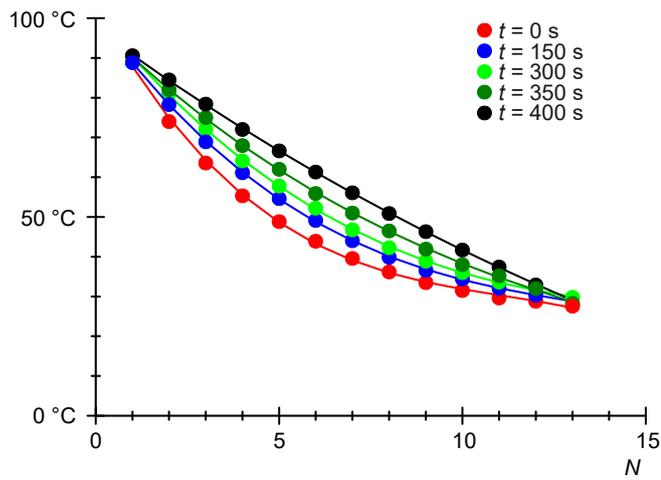

Fig. 2: Temperatures along the aluminium rod in five sets of measurements made at time intervals of 150 s
- Plot the sets of measurements in Table 1 in a graph of  $T$  against  $N$  (Fig. 2).